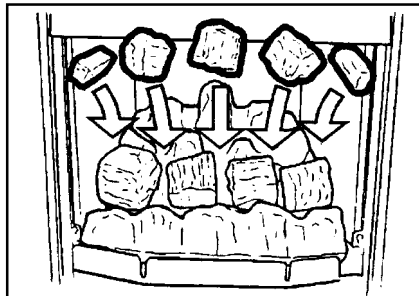

Fig. 7 Second Row of Coals
5. Place 3 of the medium size coals behind and approximately midway between the large coals as shown in figure 7. Place a “finger” coal at each end of the first two rows of coals. See figure 7.